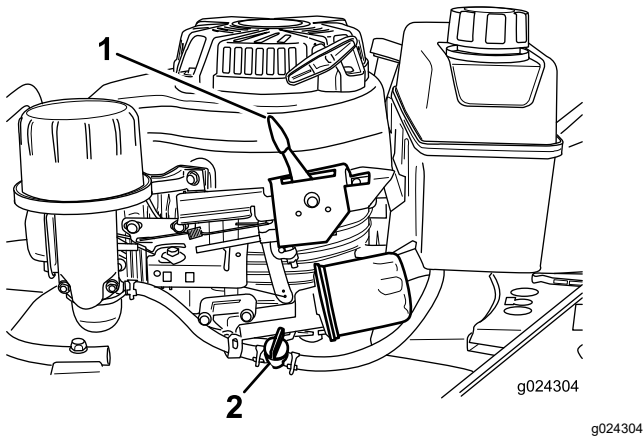

Figure 14
2. Open the fuel valve (Figure 14).
3. Move the throttle-control lever (Figure 14) to the Choke position.
Release the blade-control bar and move the throttle-control lever (Figure 14) to the Stop position.
Note: Close the fuel valve (Figure 14) if you will not be starting the engine soon afterward.